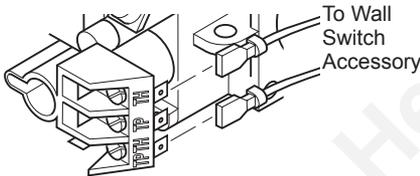

Figure 36 - Connecting Wall Switch to Control Valve
1. Connect one terminal of 25 ft. wire for wall switch to TPTH terminal on the valve. Connect remaining wire terminal to the TH terminal on the valve. Make sure wire terminals are in positions on unit as pictured in Figure 36. If wires are not connected as shown, switch will not work.